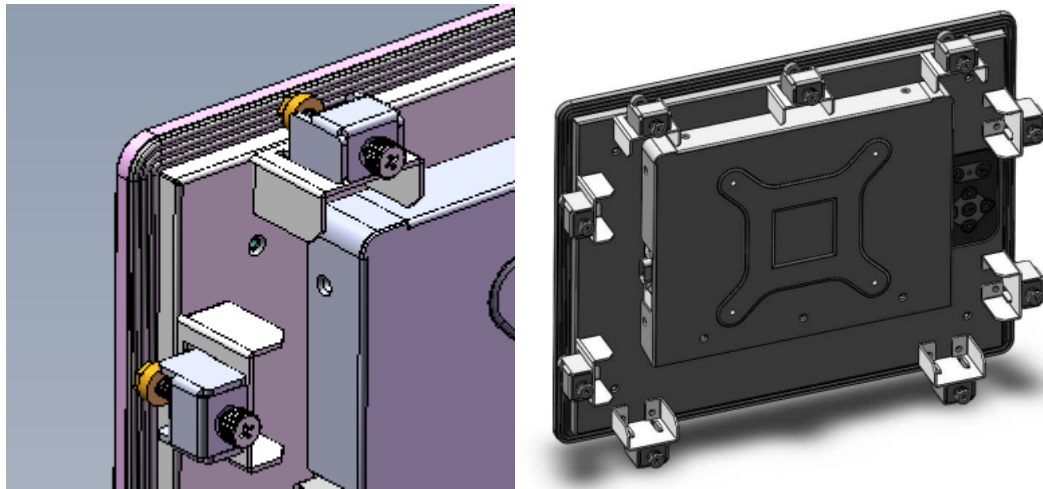

Figure 3-18: Panel Mounting Clamp Position
Step 2: Secure the panel mounting brackets to the rear of the monitor and insert the panel mounting clamps into the pre-formed holes along the two edges of the panel mounting brackets (**Figure 3-18**).